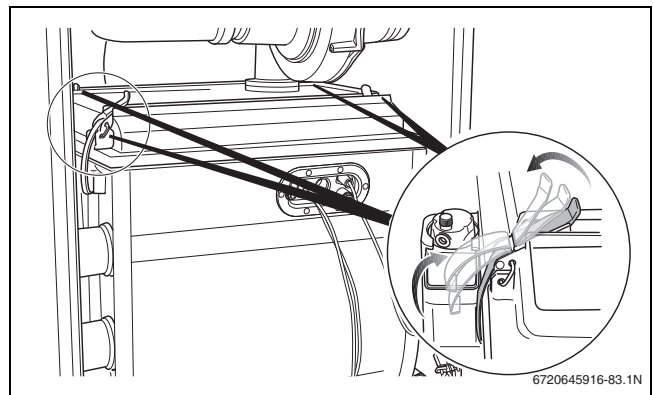

Fig. 86 Opening the retaining clips
- Carefully open the 4 snap retaining clips on the burner cover (→ fig. 86). The retaining clips may be under tension.